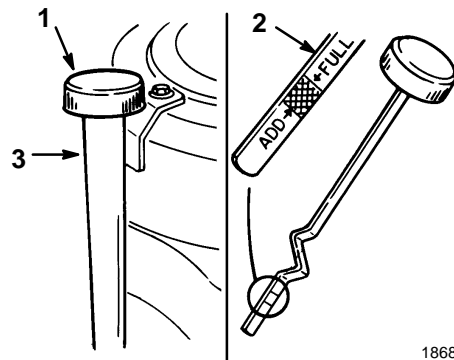

Figure 33
3. Clean around the oil dipstick (Fig. 33) so dirt cannot fall into the filler hole and damage the engine.
4. Unscrew the oil dipstick and wipe the metal end clean (Fig. 33).
5. Screw the oil dipstick fully onto the filler tube (Fig. 33). Unscrew the dipstick again and look at the metal end. If oil level is low, slowly pour only enough oil into the filler tube to raise the level to the “FULL” mark.
7. Slowly pour approximately 80% of the specified amount of oil into the filler tube (Fig. 33). Now check the oil level; refer to Checking Oil Level, page 32, steps 4–5.
5. Slowly pour approximately 80% of the specified amount of oil into the filler tube (Fig. 33). Now check the oil level; refer to Checking Oil Level, page 32, steps 4 and 5.